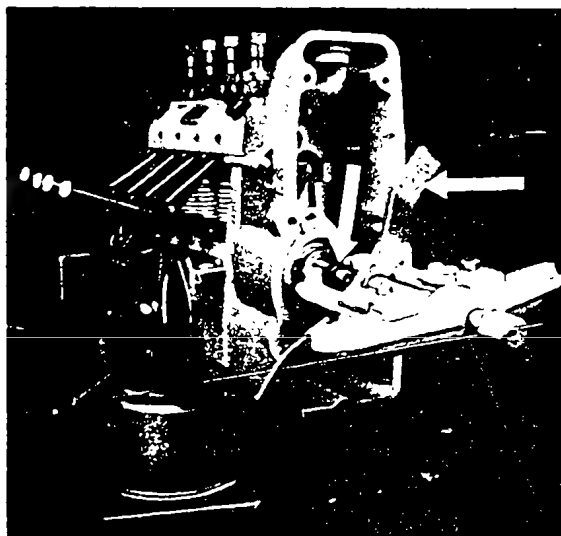

Fig. 25 Extracting the governor shaft complete with bearing cover and drive gear
2.3. 4. Withdraw governor shaft (170) complete with bearing cover (168) and deep-groove radial type ball bearing (171) from governor housing. For this purpose screw a hex. nut (see arrow) on the threaded end of governor shaft, place the claws of a conventional extractor behind this nut whilst supporting the extractor on a cranked steel strip (see arrow) placed across the housing joint face (Fig. 25). The cranked steel strip must be made in the workshop.